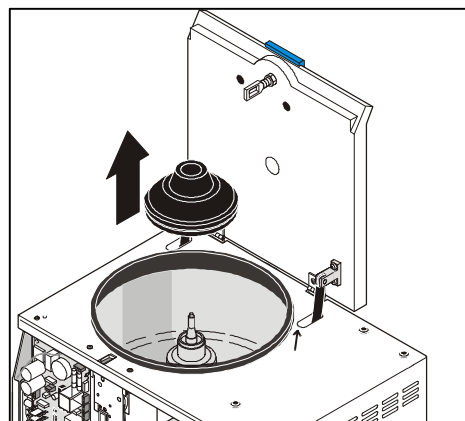

Figure 5
- Unscrew the 7 Phillips screws (102), unplug grounding wire and remove the back panel.
5.1.3 Rubber Flange (130)
- Free lower rim of cover by pulling in towards the center and upwards, working all the way round to remove it (Figure 5).